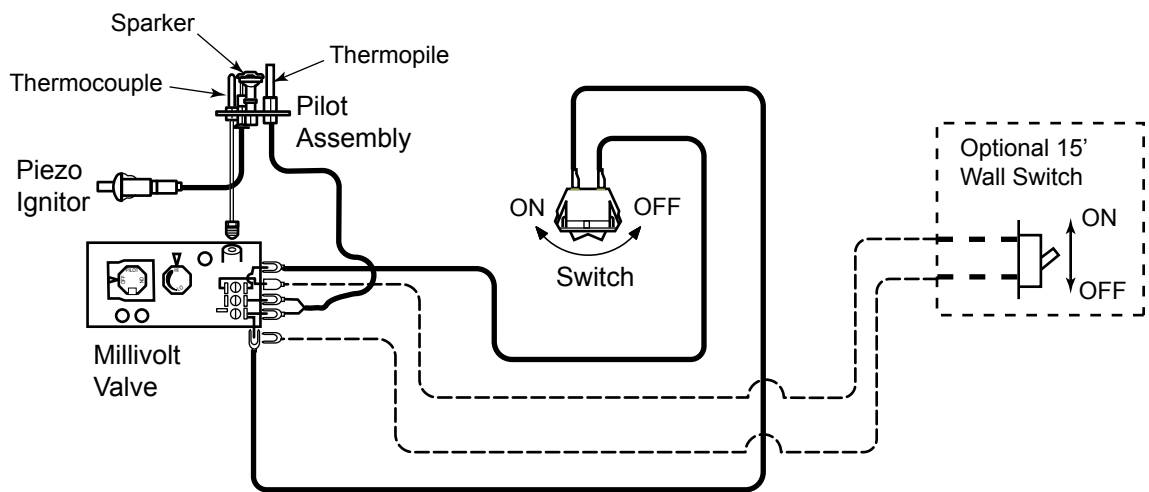

Figure 48 -
A remote wall switch and up to fifteen (15) feet of 18 Ga. wire may be used with this appliance. Attach the wall switch in a junction box at the desired location on the wall. *Figure 48*. Do not extend beyond the wall switch wire length provided.